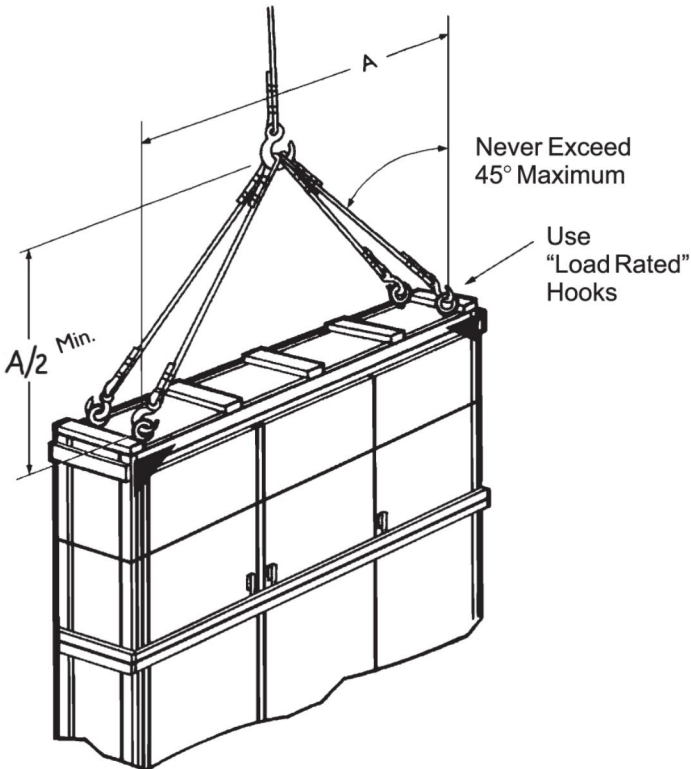

Figure 6
See Figure 6 and follow procedures as listed below.
1. Attach rigging to eye bolts always maintaining the 45° maximum angle illustrated in Figure 6. When lifting three-, four-, and five-door enclosures, four eye bolts must be used.
4. To reduce tension on the rigging and compression on the enclosure, do not allow the angle between the lifting cables and the vertical to exceed 45 degrees, see Figure 6.